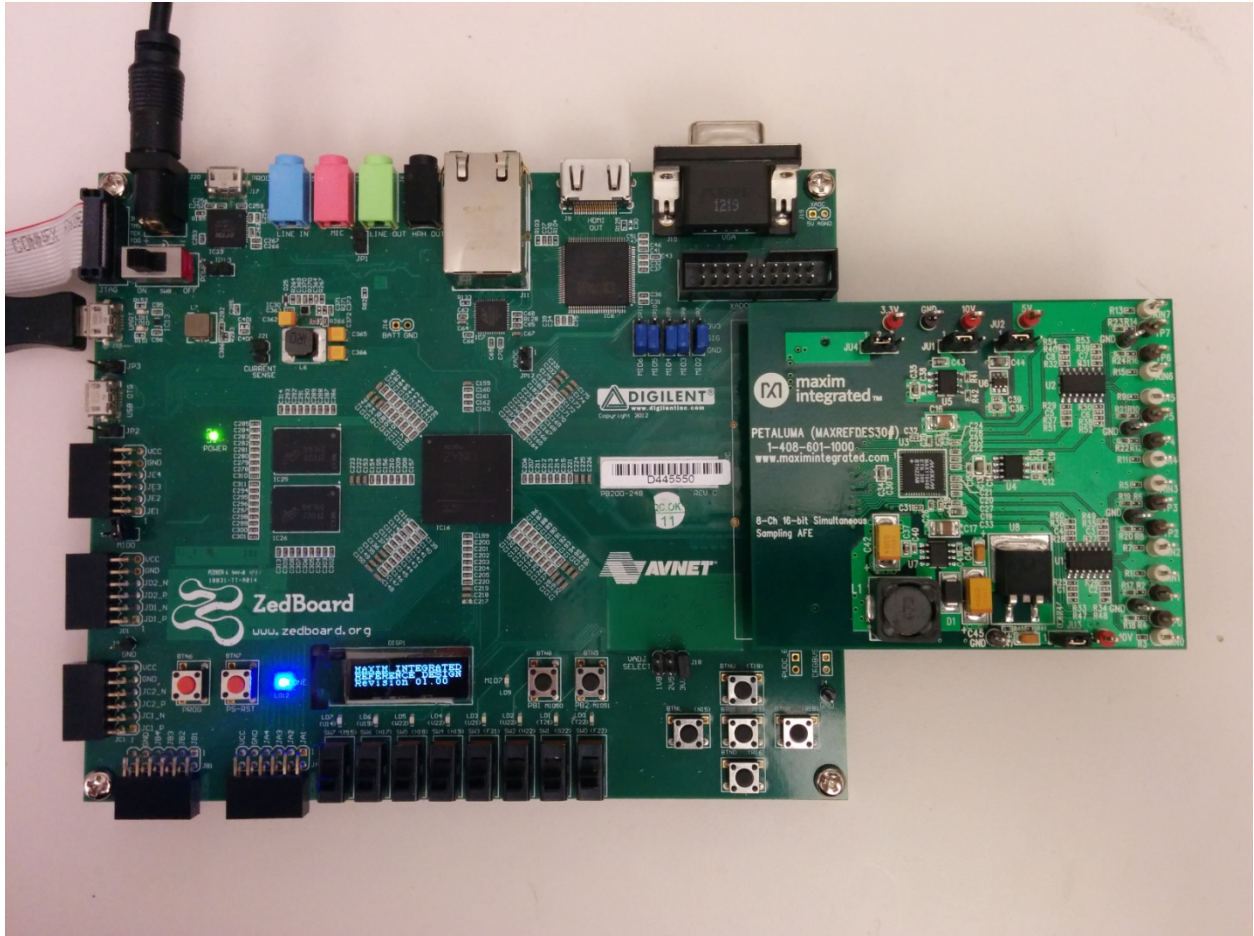

Figure 1. Petaluma Board Connected to ZedBoard Development Kit
- 1) Connect the Petaluma board to the J1 FMC connector of a ZedBoard as shown in Figure 1.
3. Connect the Petaluma board to the J1 FMC connector of the ZedBoard as shown in Figure 1.